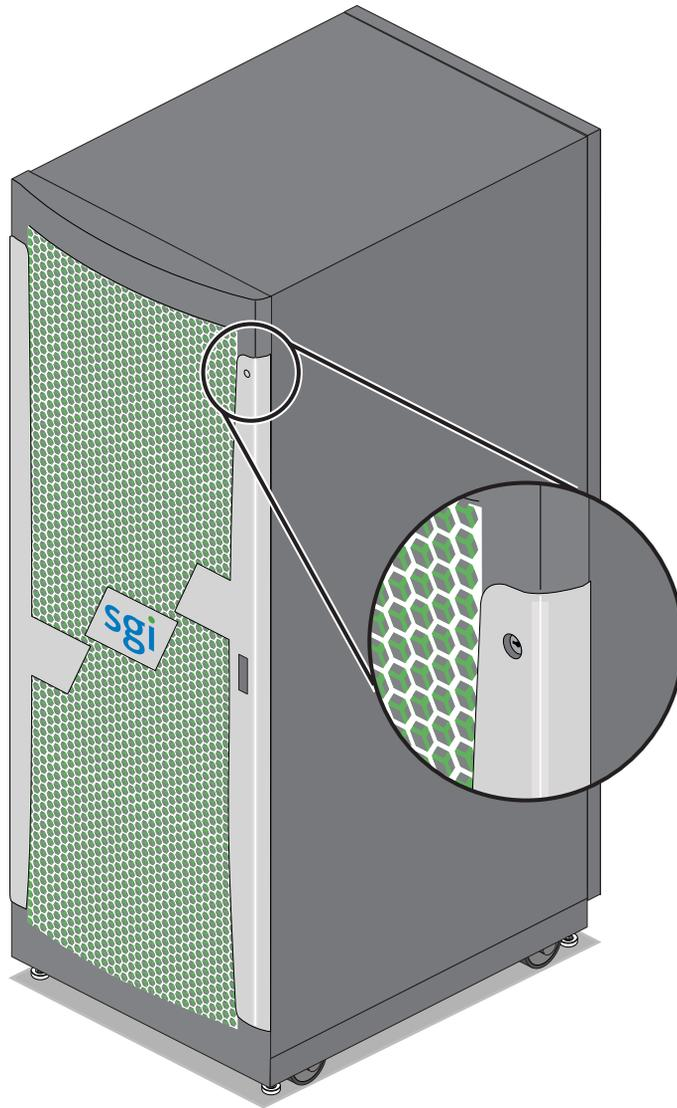

Figure 4-2 Front Lock on Tall (42U) D-Rack
- **Front and rear door.** The front door is opened by grasping the outer end of the rectangular-shaped door piece and pulling outward. It uses a key lock for security purposes that should open all the front doors in a multi-rack system (see Figure 4-2 on page 50). A front door is required on every rack.